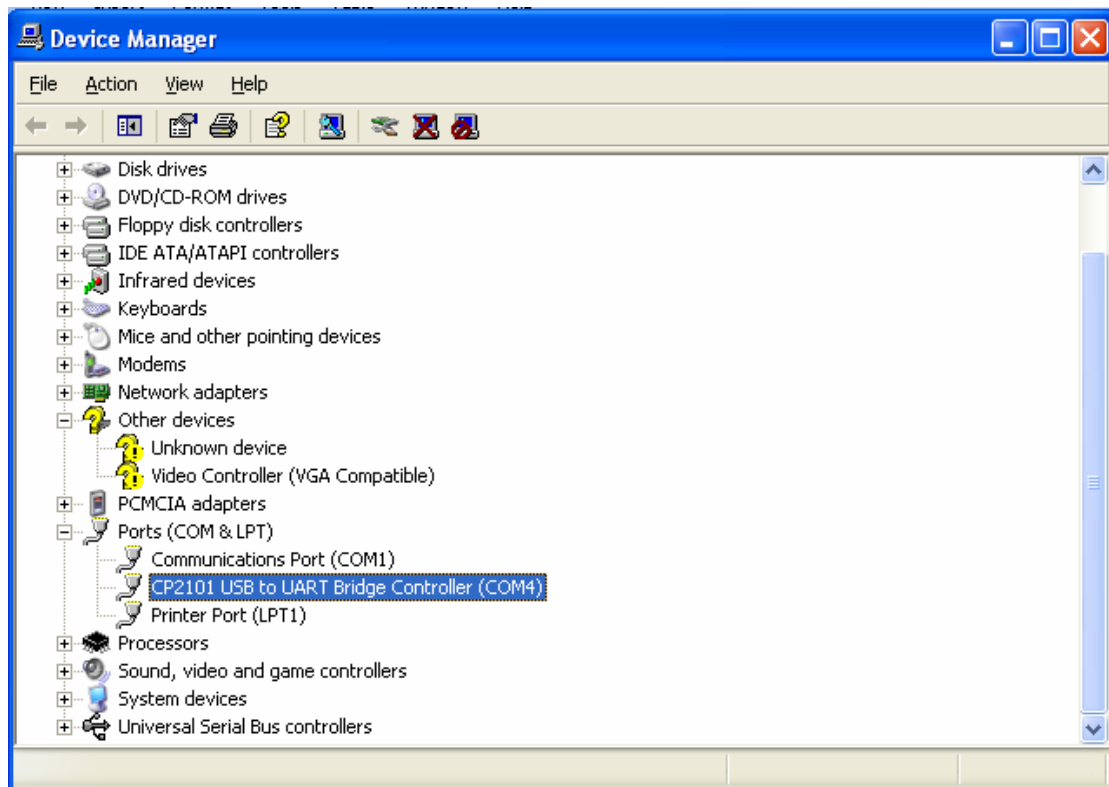

Figure 8
(8) Click "Finish", there will be "CP2101 USB to UART Bridge Controller (COM4)" in the Ports (COM & LPT), as shown in figure8.